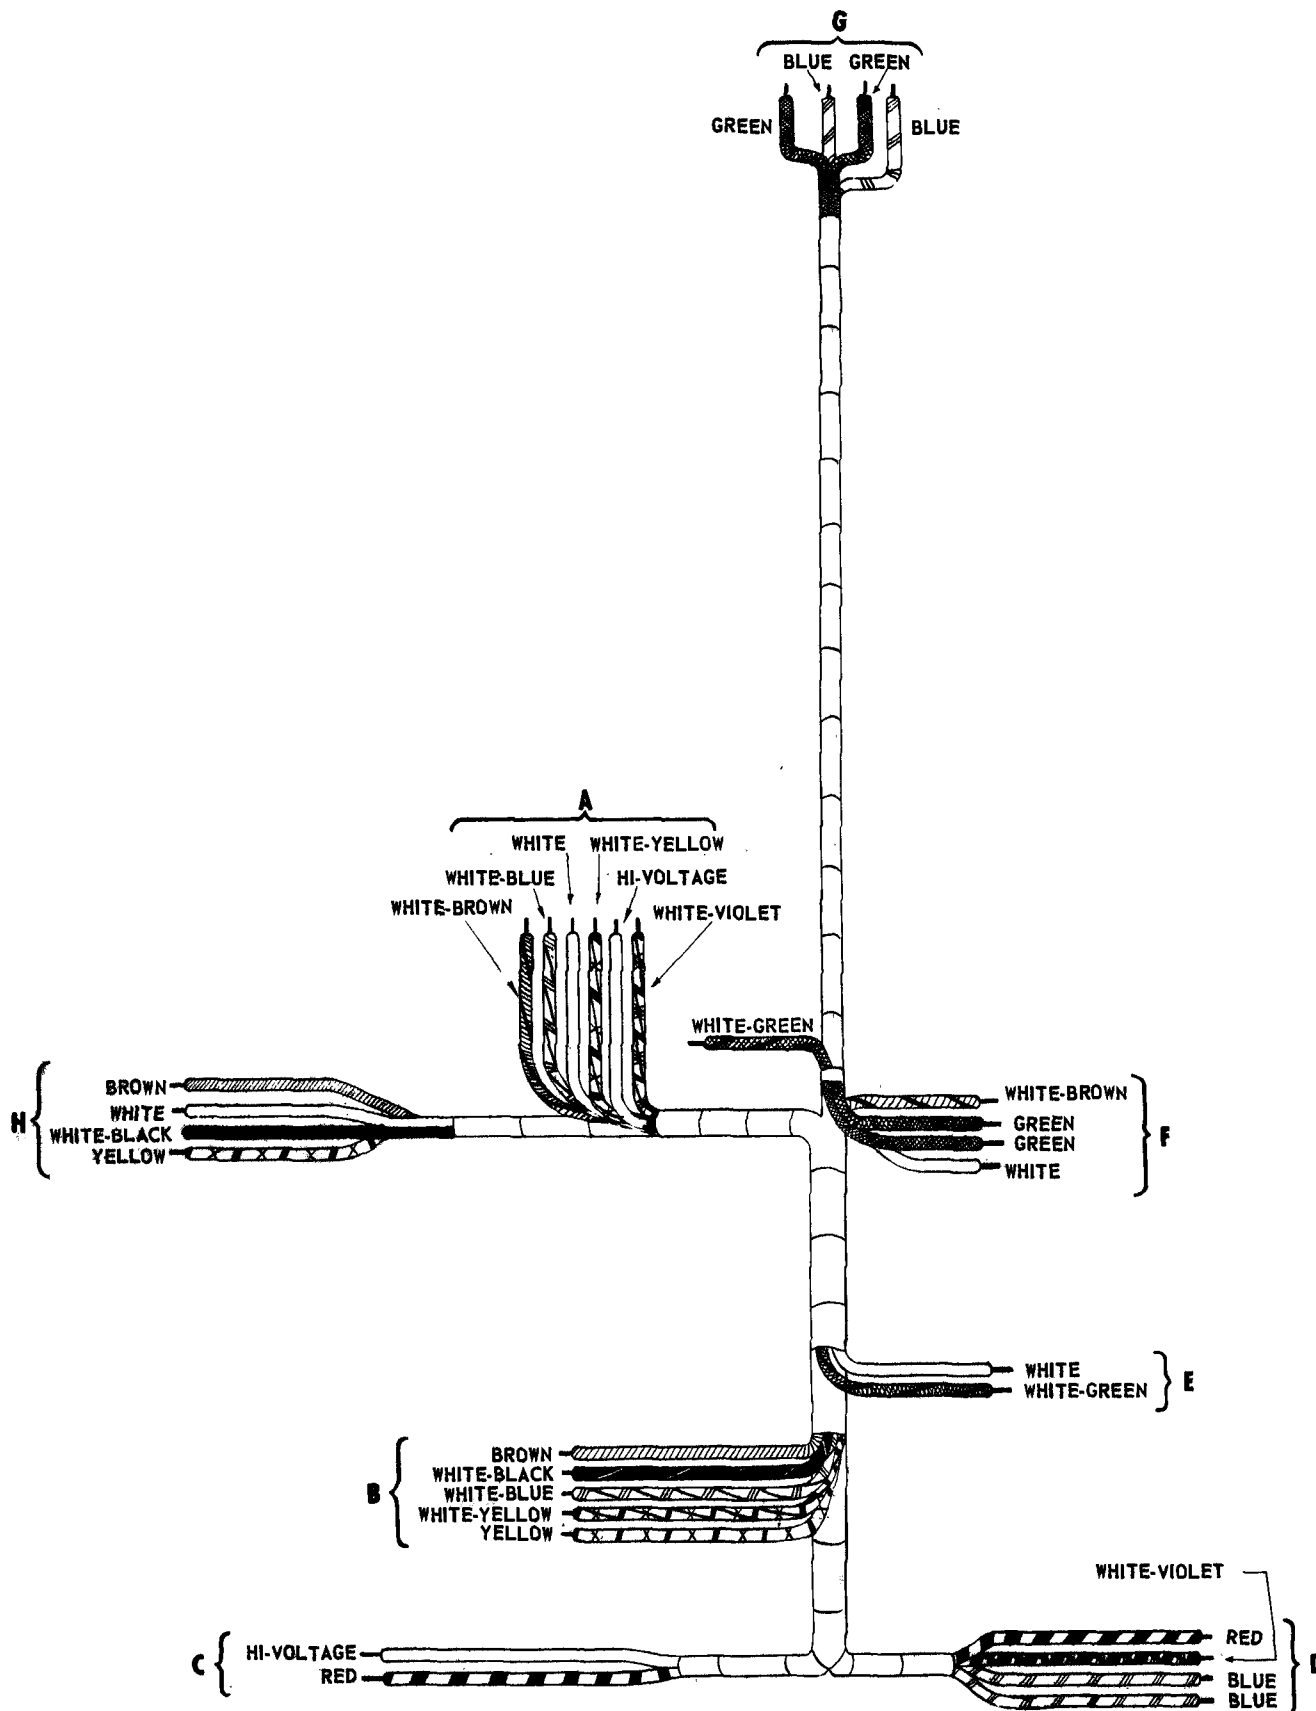

Figure 18. Large Wiring Harness.
- 19. Select the largest cabled harness assembly. Lay it on a flat surface and straighten the wires on all branches so the colors may easily be identified. When ready for installation, the harness should appear as shown in Fig. 18.